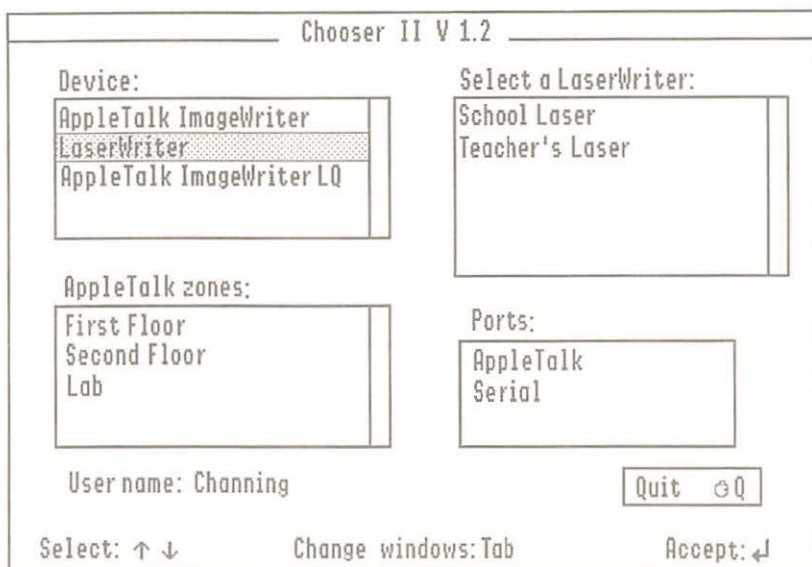

Figure B-4
3. **Choose LaserWriter as the printer type. (See Figure B-4.)**